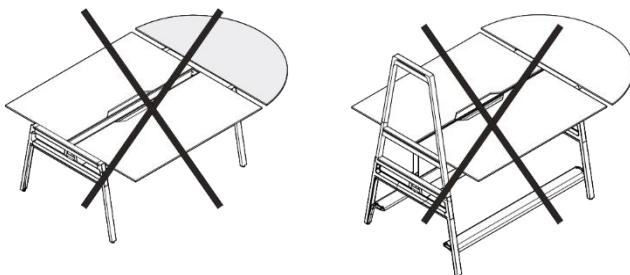

Figure 11 Semi-circular desktop extension, impermissible attachment
- Freestanding dual workstation, seating height, only one desktop extension (see Figure 11, left). Reason: **Instability!**
- Freestanding dual workstation, standing height (see Figure 11, right). Reason: The desktop extension protrudes on each side approx. 5 cm beyond the depth of the two desktops. **Risk of impact!**